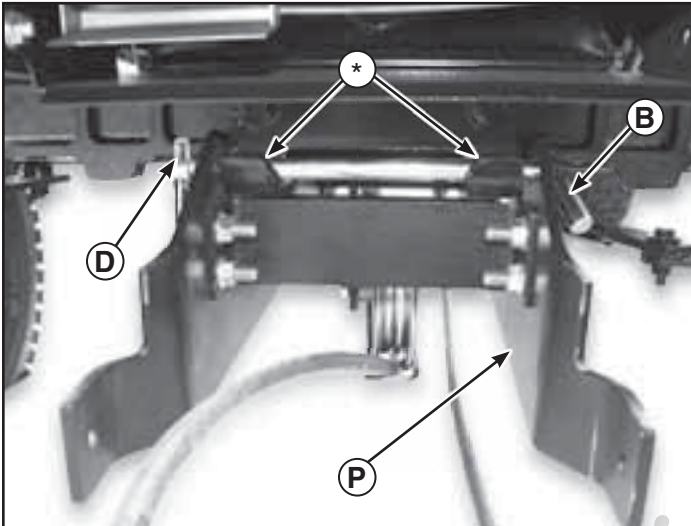

Figure 8
6. Lift front of the hitch assembly (P, Figure 8) up to tractor hook-hitch (*).
7. Slide hitch latch pin (B) through the mounting holes in the hitch frame. Secure hitch latch pin with the hair pin (D).